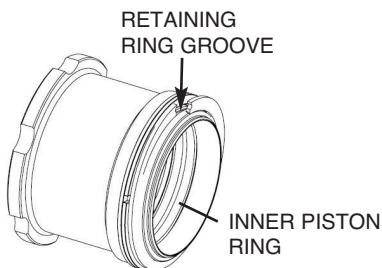

Figure 18B
2. Push the retaining ring over the piston into the retaining ring groove. Start with one end of the ring engaged in the groove and work around clockwise or counter clockwise (Figure 18B).